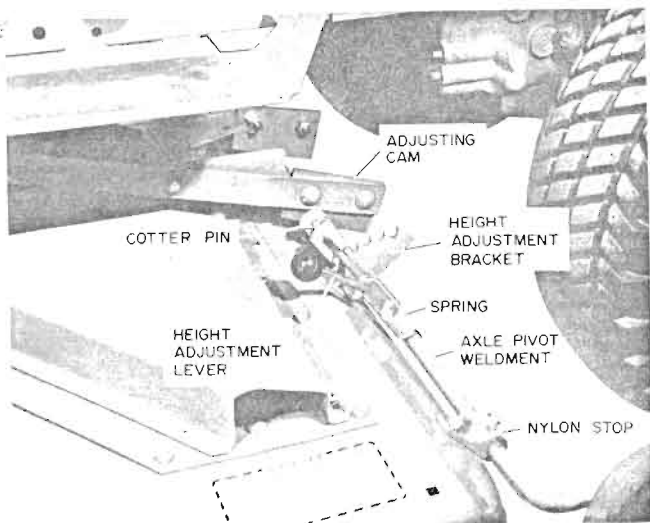

fig 4
5. Slide height adjustment lever in the 2 slots of the axle weldment. Fasten it with 2 cotter pins. Connect spring to height adjustment lever and axle. Screw knob on lever, fig 4.